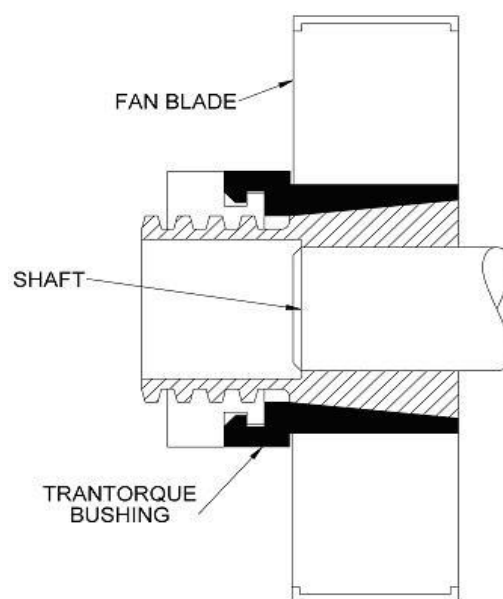

Fig. 4-2 – Attaching fan blade with Trantorque GT bushing
1. Insert Trantorque GT unit into fan hub, making sure mating hub is flush against shoulder at hex flats. See Fig. 4-2.